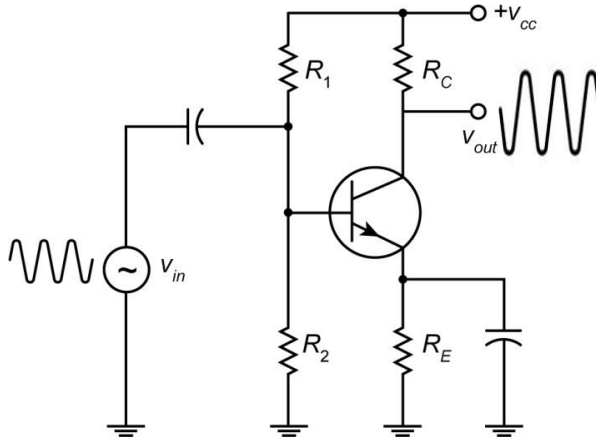

Fig. 5.10: Common emitter amplifier.
Fig. 5.10 shows a common emitter (CE) amplifier. A small sine wave is applied at the input. This produces variations in the base current. Because of current gain  $\beta$ , the collector current is an amplified sine wave of the same frequency. This sinusoidal collector current flows through the collector resistance and produces an amplified output voltage.